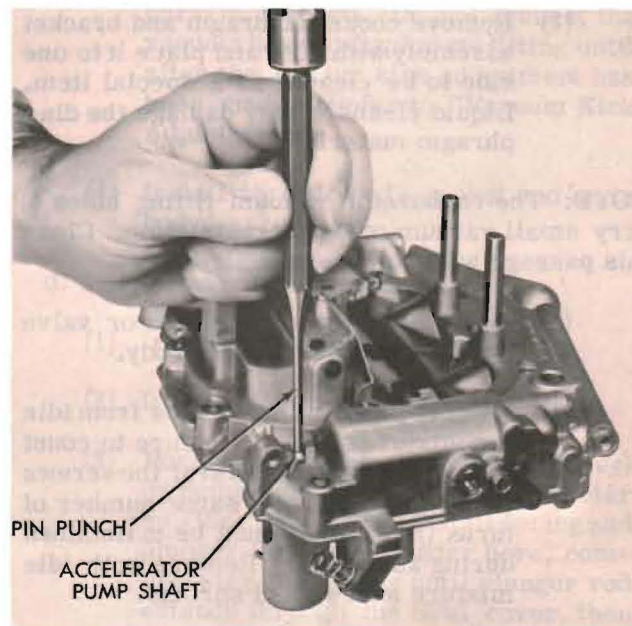

Figure 10. Removing Accelerator Pump Plunger
- (1) Remove the float lever pins and lift out float assemblies. It is suggested that the float on the pump side be marked so that floats can be reinstalled in their respective positions.
- (2) Remove the two needle valves from their respective seats, after marking the one on pump side for identification. Using a wide blade screwdriver, remove needle valve seats. Be sure each needle valve is returned to its original seat during reassembly.
- (3) Remove the primary jets (large screwdriver slots).
- (4) Remove the secondary jets (small screwdriver slots).
- (5) Remove acceleration pump passage tube (plastic) and bowl cover gasket.
- (6) Remove accelerator pump rod "S" link. To remove pump plunger assembly, use a small rod placed on upper end of plunger shaft and tap lightly with a small hammer. (See figure 10.)